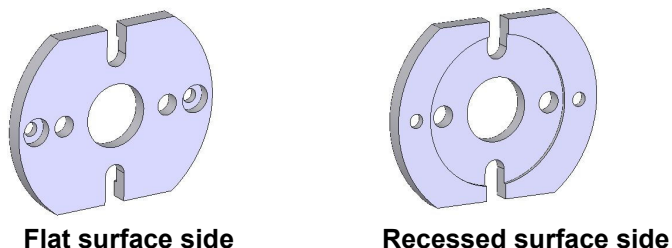

Fig 5. Alternative front cover plate to be used on the Electrical Heating Jacket when installing High Pressure Liquid Cells
For fitting of the High Pressure Liquid Cells into the Electrical Heating Jacket, the procedure is the same as that for fitting of the Flow Liquid Cells. (See steps 1 to 9 – pages 9 to 11). However, an alternative front cover plate to the one supplied with the Electrical Heating Jacket (2) is used to hold the High Pressure Liquid Cells in position. (See Fig. 5 for alternative cover plate).